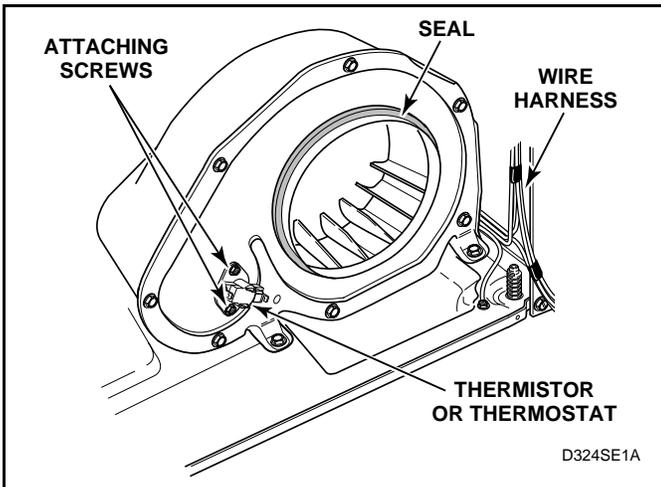

Figure 39
- c. Disconnect wires and remove thermostat or thermistor attaching screws. See *Figure 39*.
IMPORTANT: When reassembling, be sure seal on exhaust fan cover makes airtight seal on flange of duct. See *Figure 39*. If the seal is installed improperly, the airflow through the exhaust system will be restricted which can adversely affect dryer performance.
IMPORTANT: When reassembling, be sure seal on exhaust fan cover makes airtight seal on flange of duct. See *Figure 39*. If the seal is installed improperly, the airflow through the exhaust system will be restricted, which can adversely affect dryer performance.